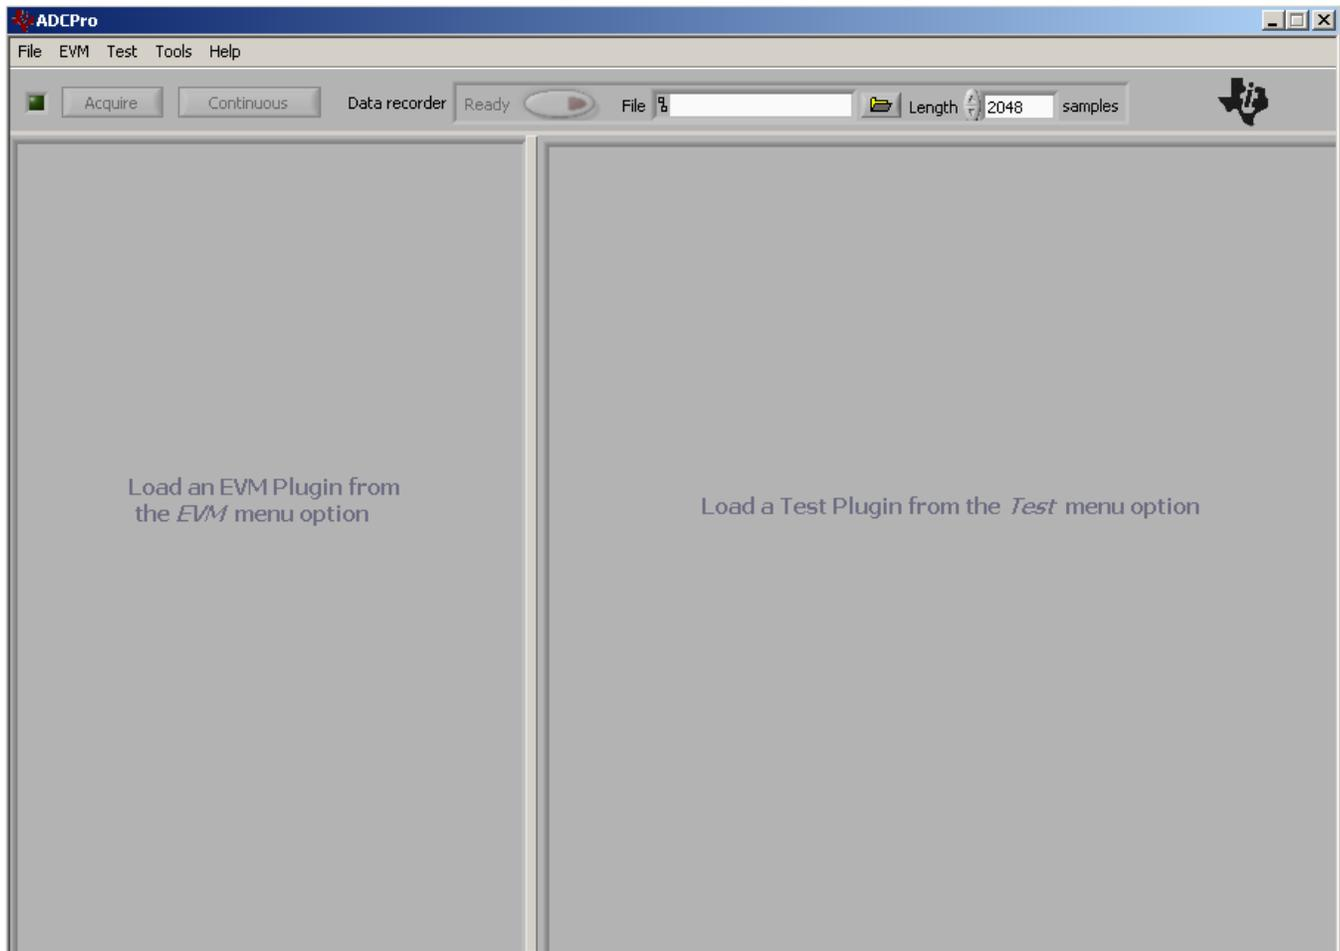

Figure 17. ADCPro Software Start-up Display Window
1. Start the software by selecting *ADCPro* from the Windows Start menu. The screen in Figure 17 appears.